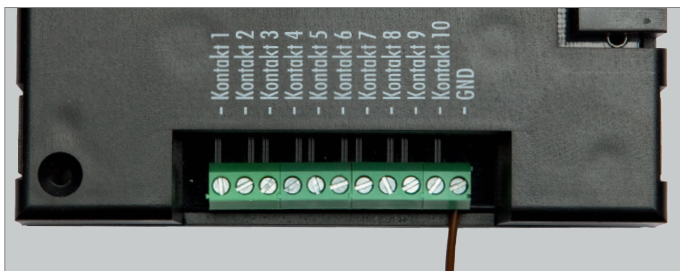

Fig. 4: Connecting contacts
- ▶ Connect the cable of the contact to the desired position, see Fig. 4.
The contact is now connected, see Fig. 4.